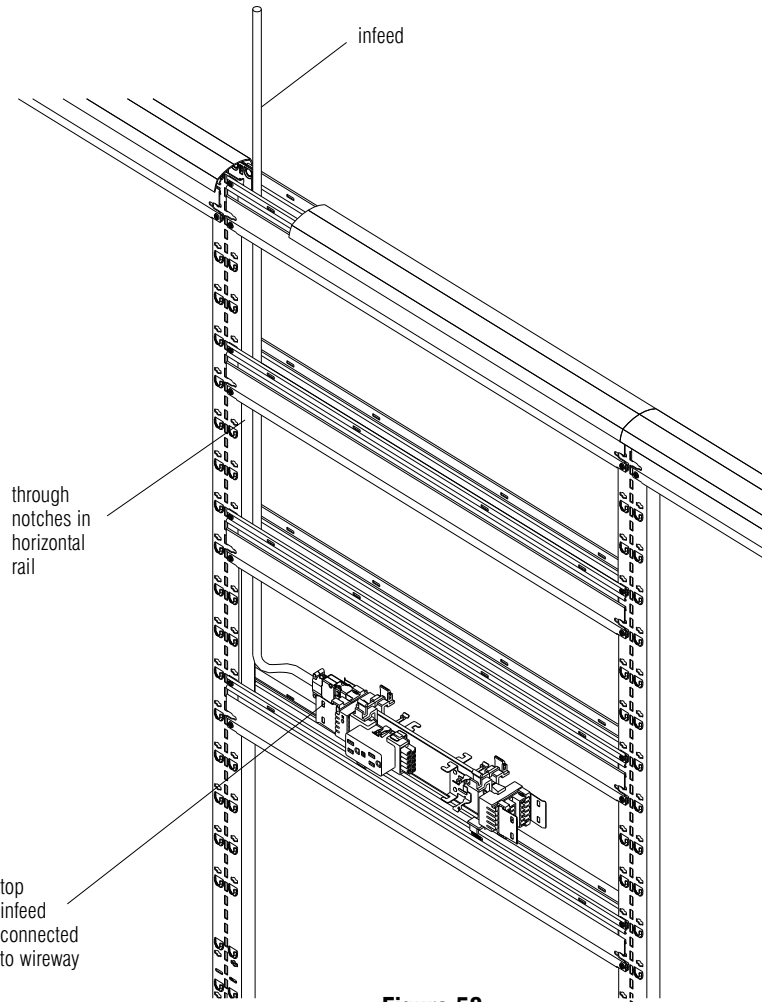

Figure 53
2. Run the infeed through the notches in the end of the horizontal rail down to the rigid wireway. Attach to the rigid wireway at the end of the rigid wireway (the infeed attaches to the rigid wireway in the same manner as the jumpers). **Figure 53.**